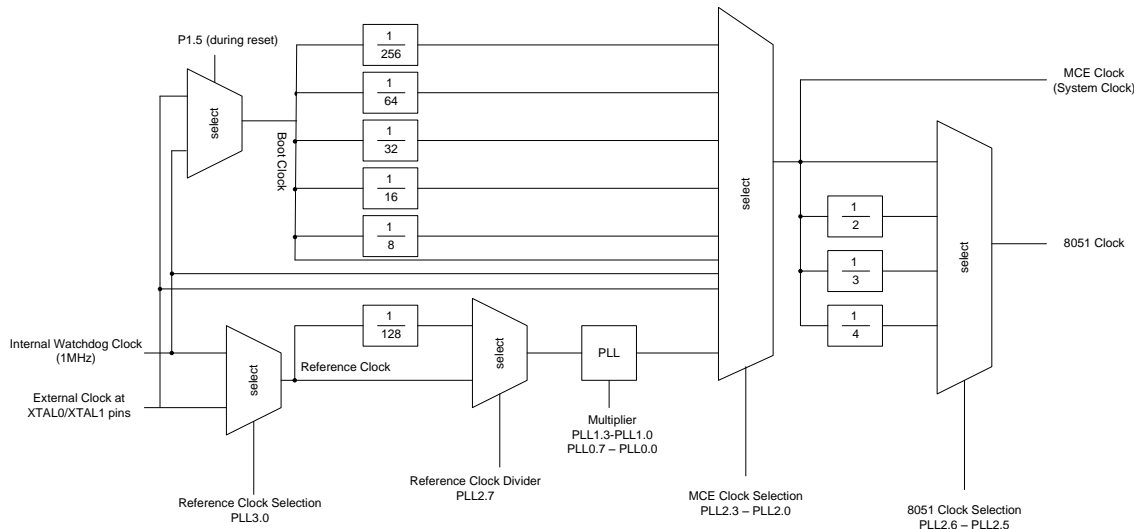

Figure 8. Clock Selection Diagram
- 8051 Clock as shown in Figure 8, above.